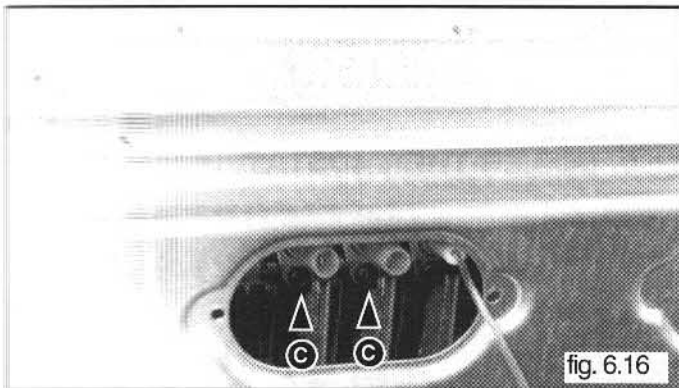

fig. 6.16
- 5 Remove screws "C" using a PHILLIPS No.2 star tip screwdriver (see fig. 6.16);